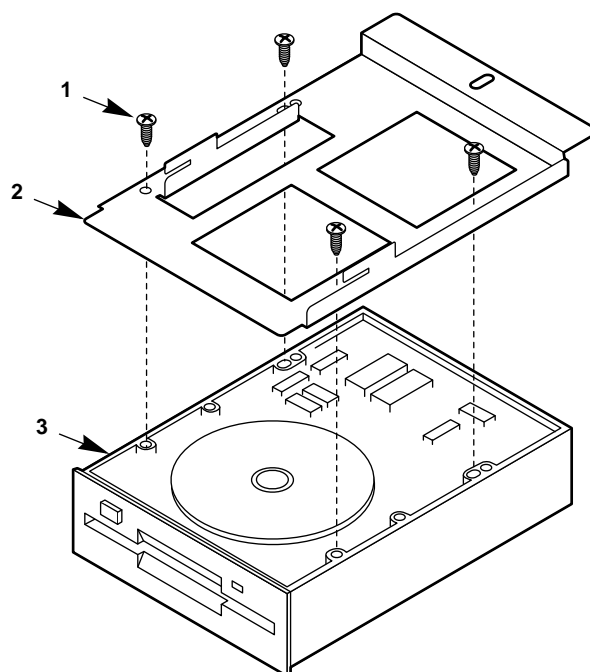

Figure 4-6. Diskette Drive and Carrier Assembly
6. Remove the four screws, and set them and the drive carrier aside. See Figure 4-6